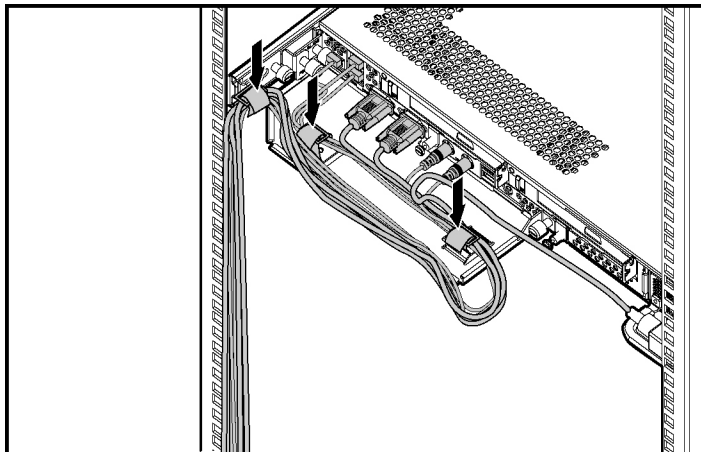

Figure 3-9: Closing the cable clamp on routed cables
3. Starting with the peripheral device cables on the left, route all of the cables and cords into the cable straps as shown in Figure 3-9.